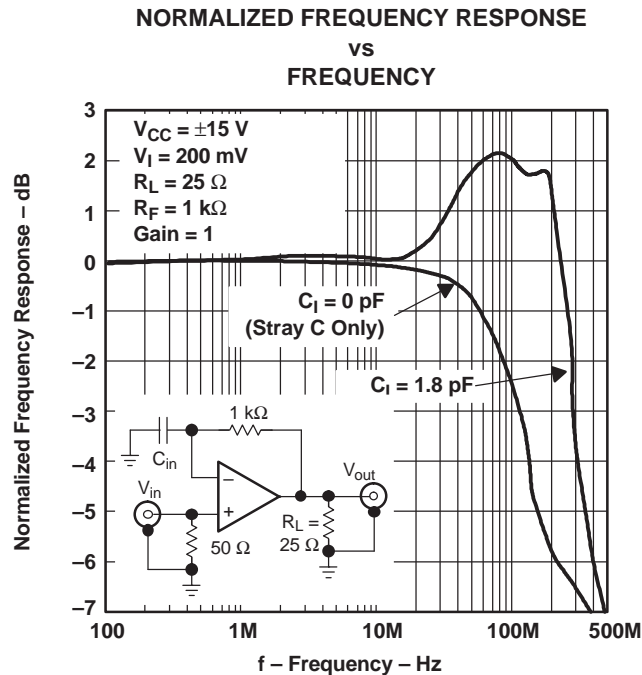

Figure 44. Driver Normalized Frequency Response vs Frequency
- **Input stray capacitance** - To minimize potential problems with amplifier oscillation, the capacitance at the inverting input of the amplifiers must be kept to a minimum. To do this, PCB trace runs to the inverting input must be as short as possible, the ground plane must be removed under any etch runs connected to the inverting input, and external components should be placed as close as possible to the inverting input. This is especially true in the noninverting configuration. An example of this can be seen in Figure 44, which shows what happens when 1.8 pF is added to the inverting input terminal in the noninverting configuration. The bandwidth increases dramatically at the expense of peaking. This is because some of the error current is flowing through the stray capacitor instead of the inverting node of the amplifier. Although, in the inverting mode, stray capacitance at the inverting input has little effect. This is because the inverting node is at a *virtual ground* and the voltage does not fluctuate nearly as much as in the noninverting configuration.